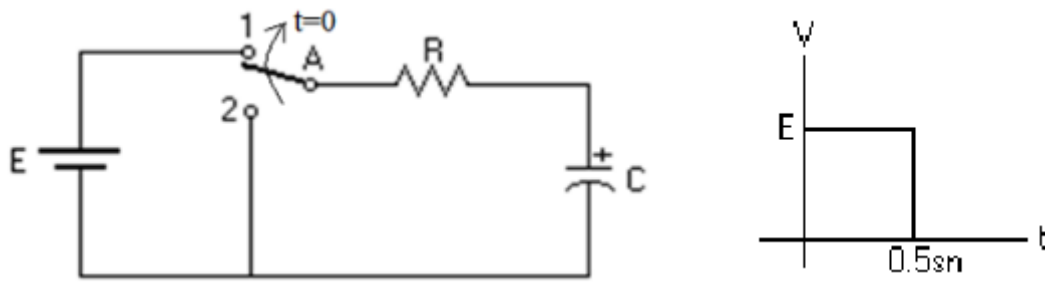

Figure 1.
1. Construct the circuit in Figure 1 with $R=10\text{k}\Omega$ and $C=100\mu\text{F}$, applying a pulse of 0.5 seconds to achieve $V_C=1\text{V}$ after 3 seconds with the voltage E .